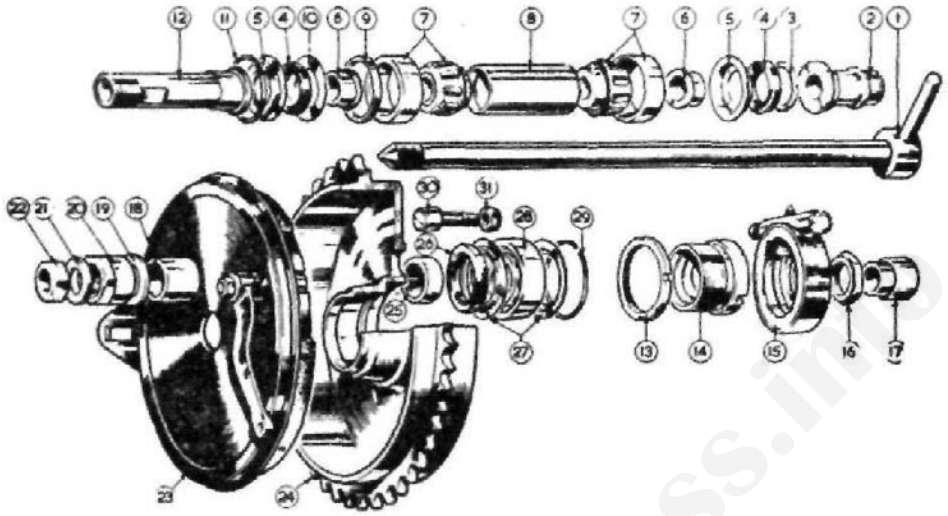

FIG 28 Rear brake and wheel bearings, de-luxe models
Dismantling rear wheel bearing (Fig. 28). Before removing the rear wheel, release the speedo drive fixing nut (16), disconnect speedo cable and take out the wheel.
Brake drum bearing Fig. 28. With the brake drum away from the frame. to dismantle: